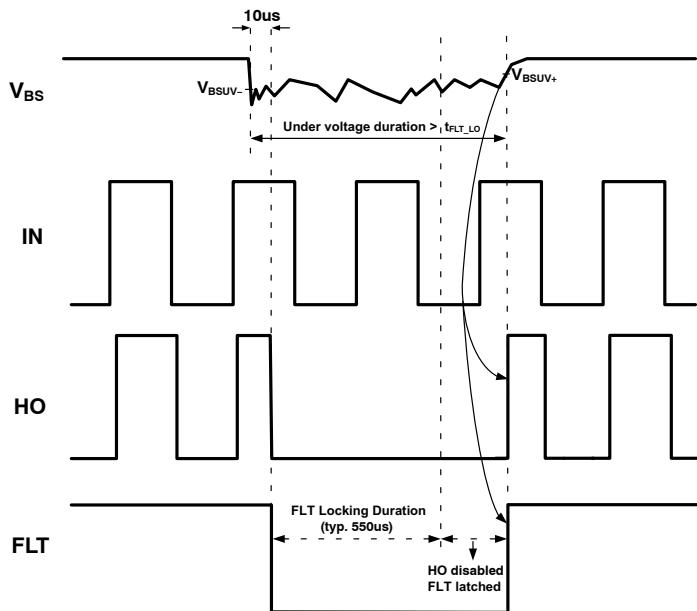

Figure 18. Under-Voltage Condition Longer than FLT Locking Duration
- ◆ If the under-voltage condition lasts for a duration longer than the FLT locking duration, the fault pin is released only after the under-voltage condition has disappeared. The driver output will begin to follow the input logic once the fault pin is released (see Figure 18).